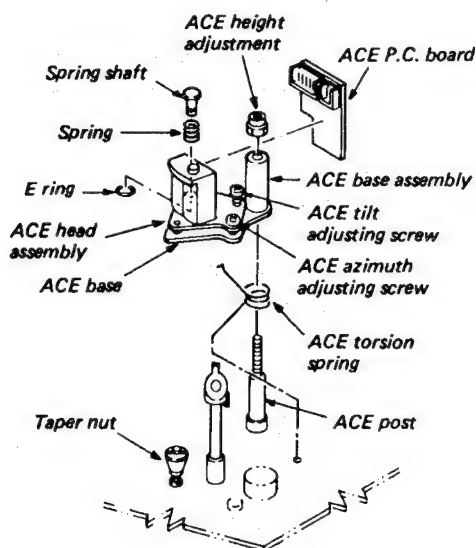

Fig. 1-3-18 Replacement of ACE head assembly
2. Turn the ACE height adjusting nut counterclockwise and remove the nut in order to remove ACE base assembly. (Fig. 1-3-18)